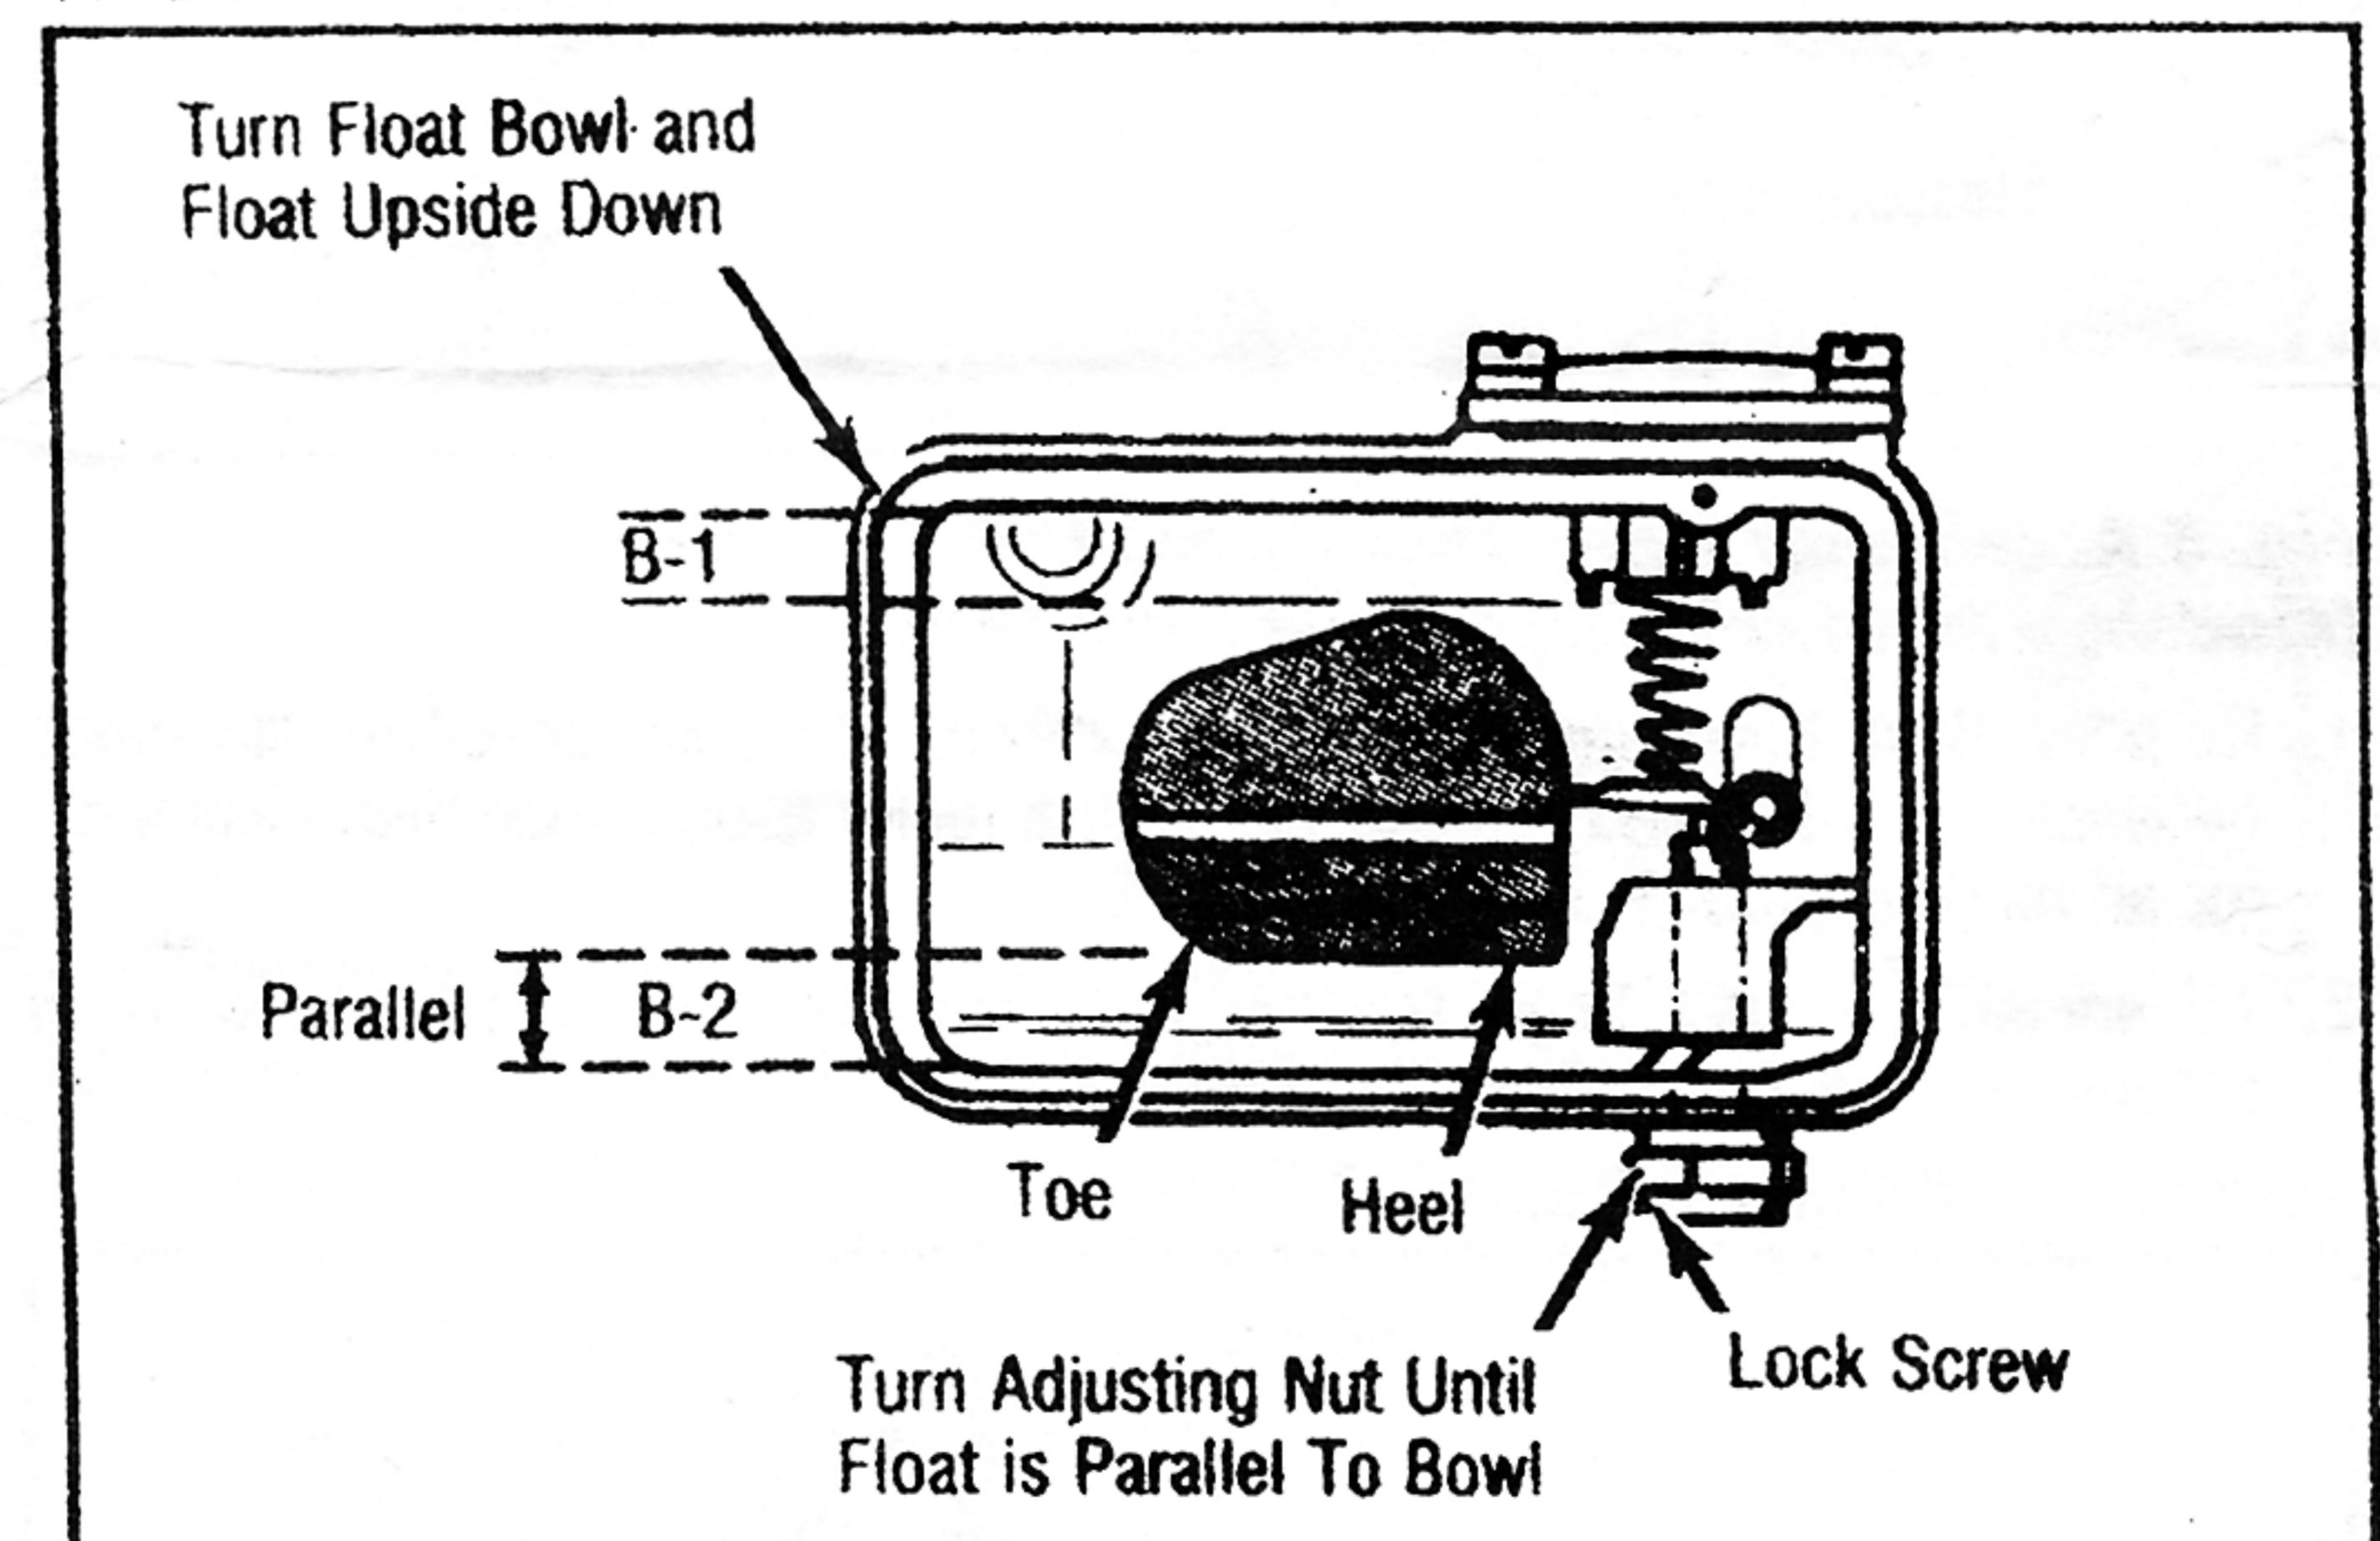

Fig. 3 Float Level Adjustment - Dry Setting (Type B - If Equipped)
1. Remove float bowl and turn upside down. Top of float should be parallel with upper and lower float bowl surfaces. See Fig. 3.